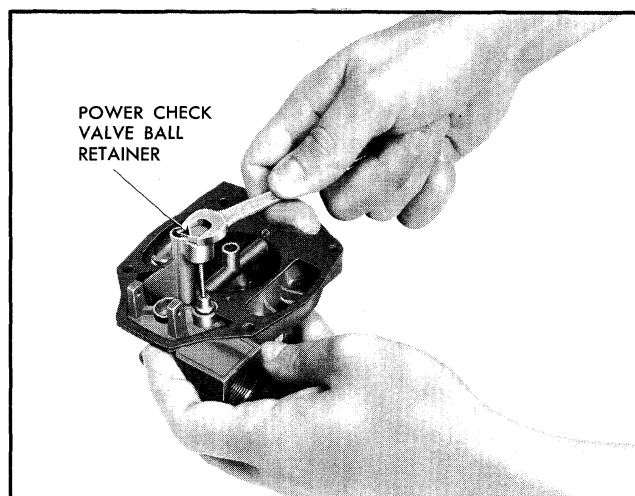

Fig. 6B-21 Removing Power Check Valve Ball Retainer
5. Remove main metering jet from bottom of main well support (Fig. 6B-20).